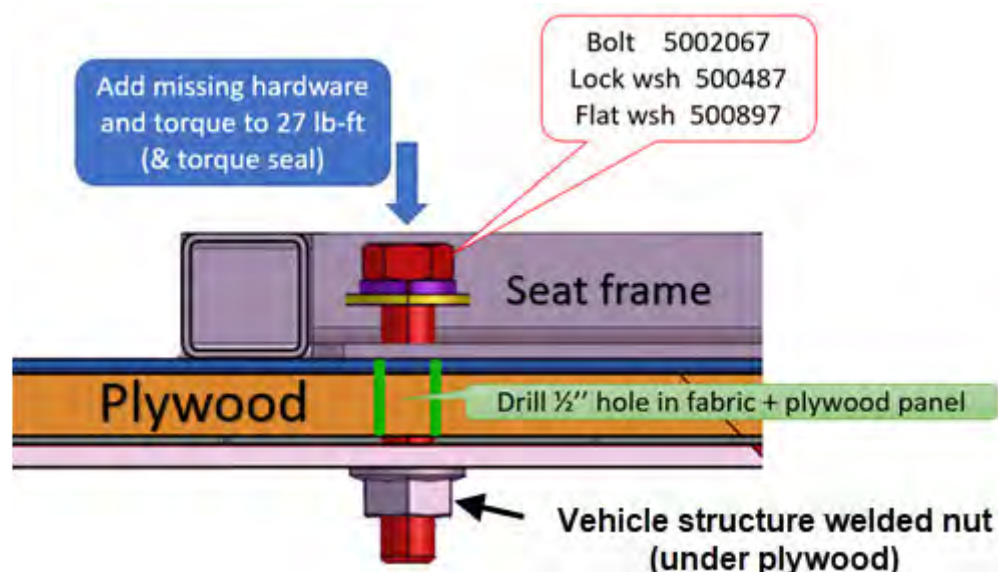

Figure4
4. Install the missing bolt and hardware (Figure4).